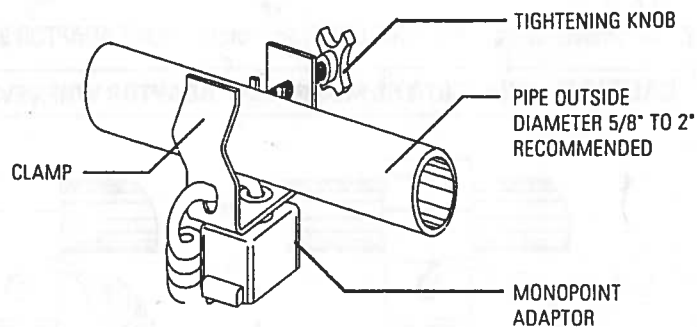

FIG. 1
This CLAMP is designed to mount on round pipe, pipe structures, or round supports. Secure the CLAMP to structure by tightening the TIGHTENING KNOB and the body allowed to face downward to minimize force required to support Lytespots (Fig. 1). A (3) prong 120V, 60 Hz, grounded receptacle is required to energize the unit.